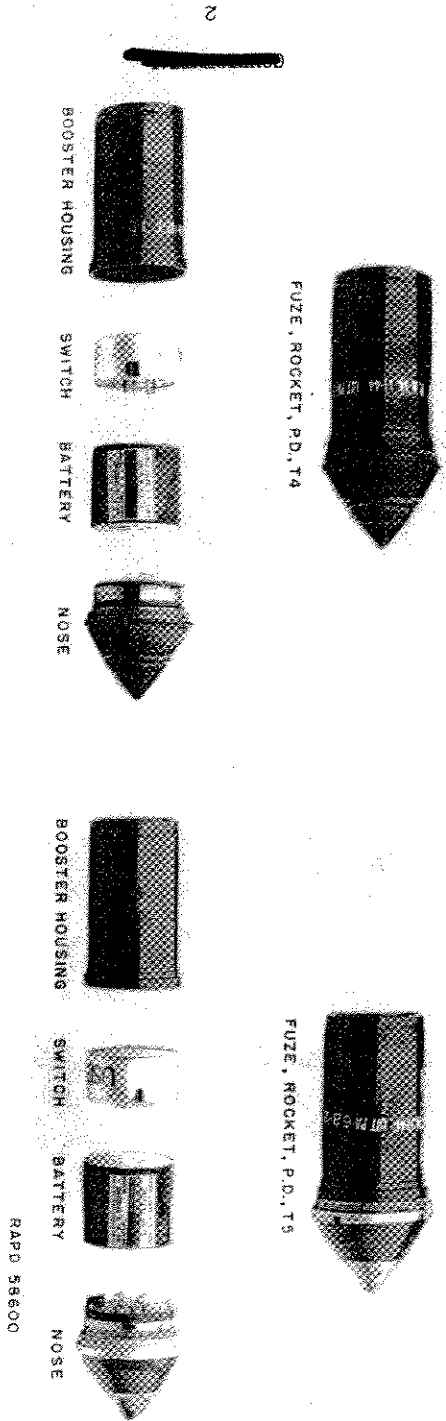

FIG. 1. FUZE T4 AND T5 AND COMPONENTS
a. P.D. rocket fuzes T4 and T5 (fig. 1) are VT fuzes for aircraft firing of 4.5-inch Army rockets listed below. These fuzes arm approximately 1 second after the rockets are fired and function automatically on approach to a target.
These fuses consist of four basic components; nose, battery, switch, and booster housing. The two fuses differ only in the nose component. Nose MC-380 () is used with the fuse 74 and Nose MC-382 () is used with the fuse 75 (fig. 1).